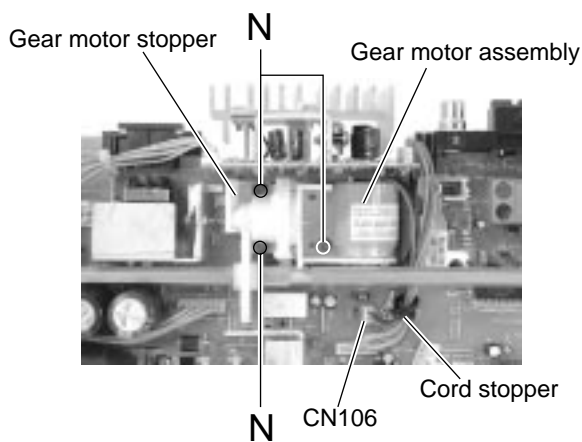

Fig.23
■Removing the gear motor assembly (See Fig.23 and 24)